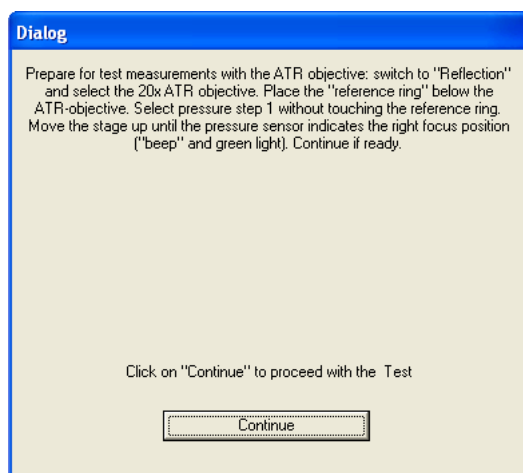

Figure 66: OPUS Reminder Message
- Thereupon, the message window shown in figure 66 appears reminding you to check whether the microscope is prepared as described in section *PQ Test Procedure*, subsection *Preparing the Microscope with ATR Objective for the PQ Test*.
Later in the course of the OQ test, the OPUS reminder message (shown in figure 66) appears again.